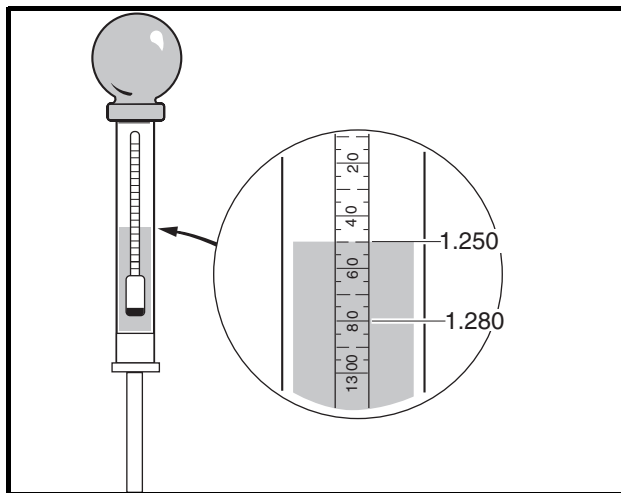

Figure 12-3 Hydrometer Test
A hydrometer (CCI P/N 1011478) measures the specific gravity. The greater the specific gravity, the greater the state of charge of the battery. A fully charged battery should read between 1.250 and 1.280 at 80 °F (27 °C). Never add acid to the battery to obtain a higher specific gravity (**Figure 12-3, Page 12-10**).
6. Hold the hydrometer vertically, ensuring that the float is not contacting the sides of the glass tube. Hold the hydrometer at eye level and read the scale at the level of electrolyte (**Figure 12-3, Page 12-10**).